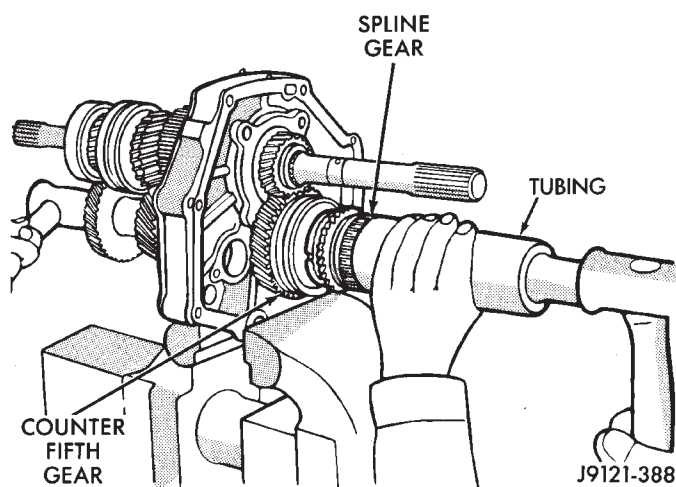

Fig. 64 Installing Fifth Gear (AX 5)
(27) Install remaining synchronizer ring and spline fifth gear (Fig. 64). Use length of pipe to tap gear into place.